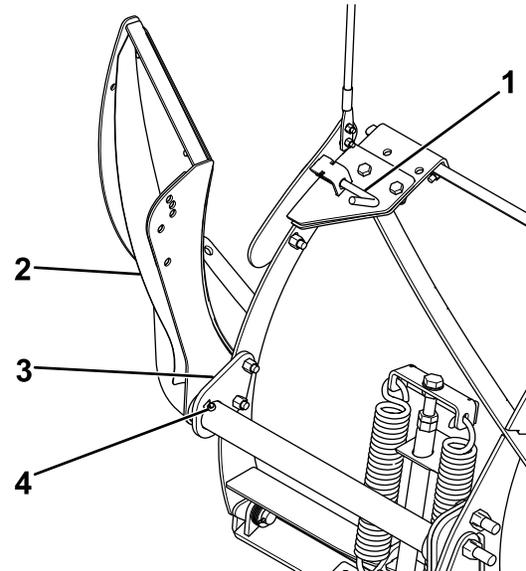

Figure 9
13. Pull back on the spring pin and rotate it into the lock position (Figure 9).
14. Slide the plow wing tube through the rib brackets until the attach pin passes through the outer bracket (Figure 9).